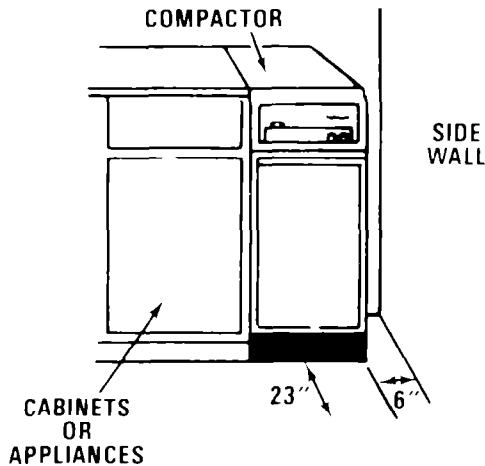

FIGURE 4
3. When installing your compactor, it is desirable to leave at least 6 inches (15 cm) clearance from the right edge of the drawer front for convenient bag removal. Also allow 23 inches (58.4 cm) in front of the appliance for drawer removal. See Figure 4.